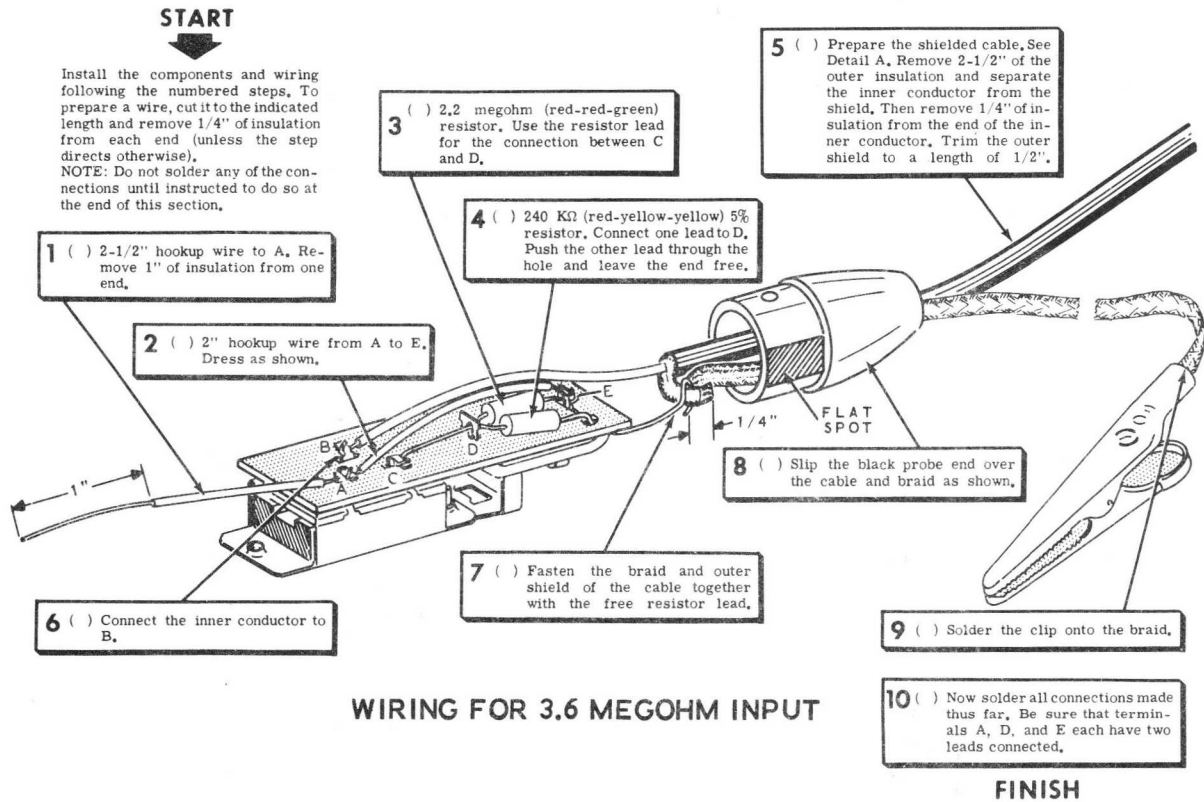
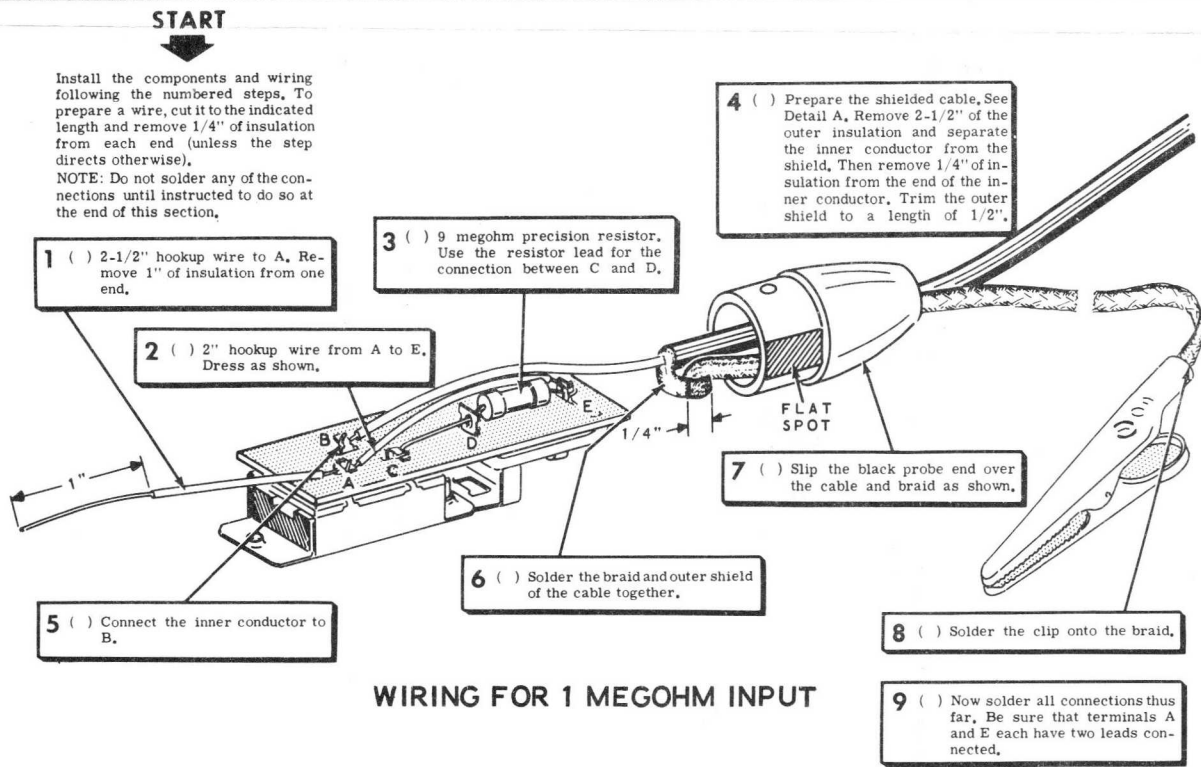

Figure 2
Figure 3
**NOTE:** If the Probe is to be used with an oscilloscope that has a 3.6 megohm input impedance, such as the Heathkit Model IO-12, follow the steps on Figure 2. If the Probe is to be used with an oscilloscope that has a 1 megohm input impedance, such as the Heathkit Model IO-14, follow the steps on Figure 3.
- ( ) Secure the black probe end to the probe body with two 2-56 self-tapping screws. Be sure the ends of the shielded lead and flat braid are between the black probe end and the probe body, to provide a ground connection for the probe body. The "flat spot" on the probe end will provide the necessary clearance. (Refer to Figures 2, 3, and 4.)